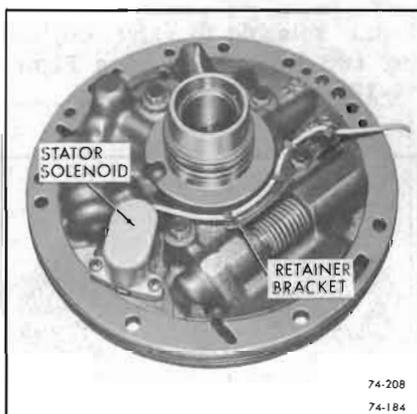

Figure 74-184
1. Remove stator solenoid. See Figure 74-184.